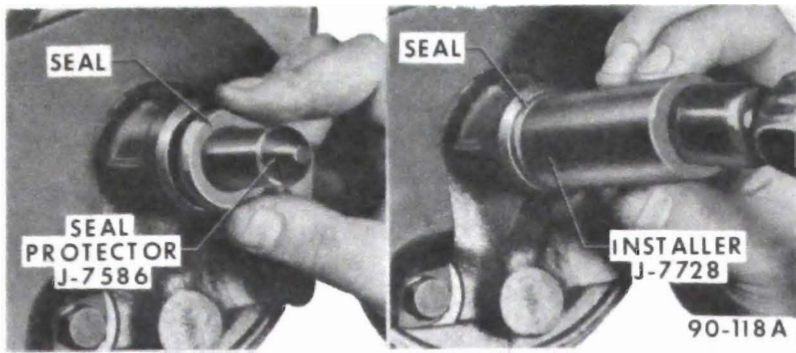

Figure 90-35 Installing Oil Pump Shaft Seal
1. Place seal protector J-7586 over shaft. Lubricate new seal with power steering oil and drive in pump housing, spring side first, with installer J-7728. See Figure 90-35. Just bottom seal in housing. *Excessive force must not be used when driving seal in place.*